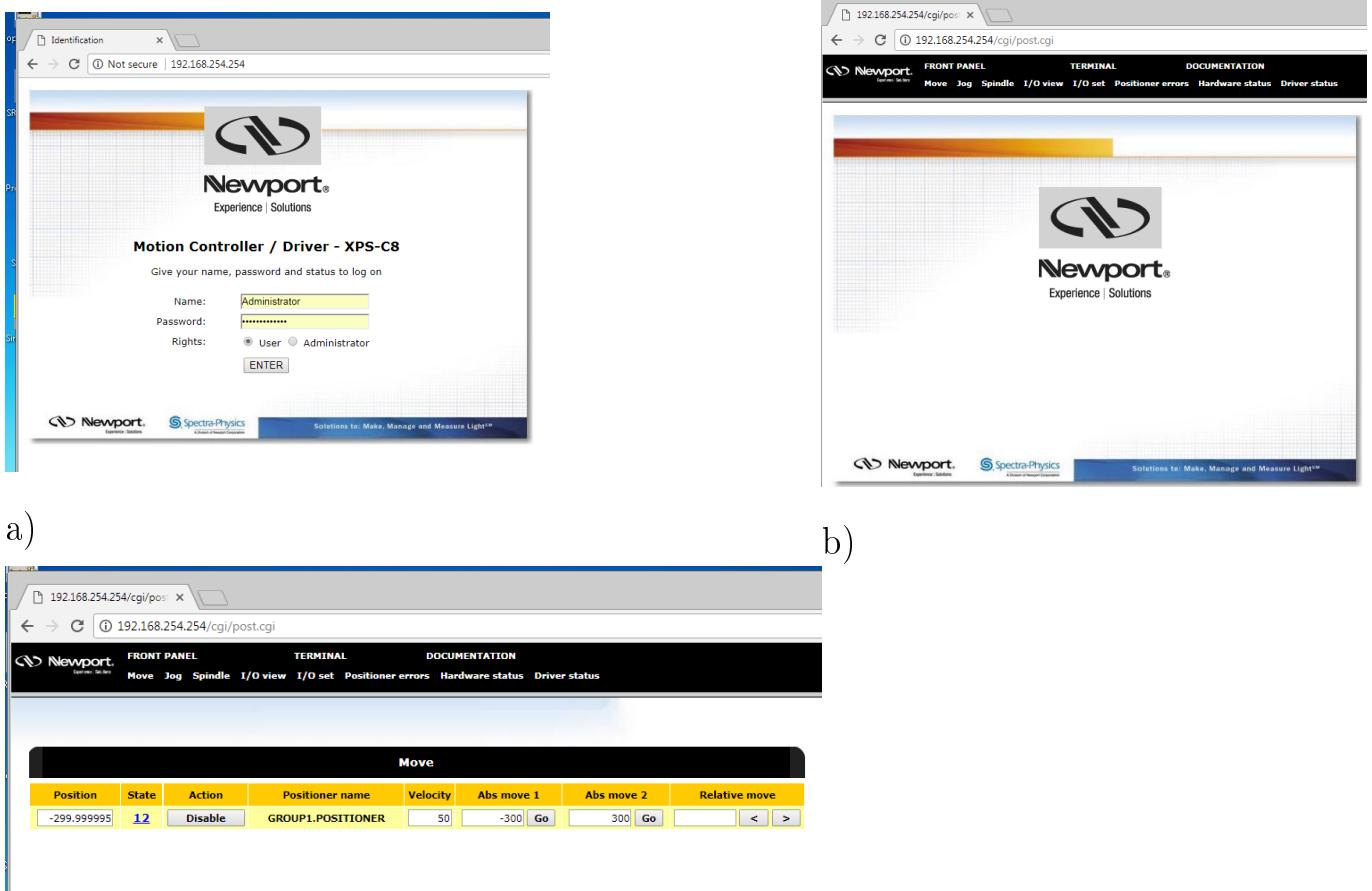

Figure 5: Control panel of delay line.
1. Open web-browser, login to the url <http://192.168.254.254> and open control panel of the delay line (Fig. 5).